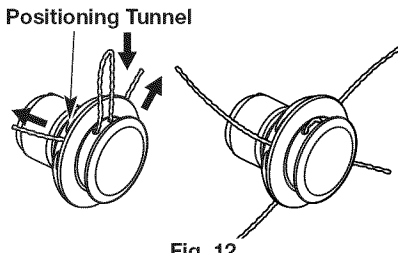

Fig. 12
5. Push and/or pull the line so that the line is snug against the hub and is fully extended through the positioning tunnels. (Fig. 12)